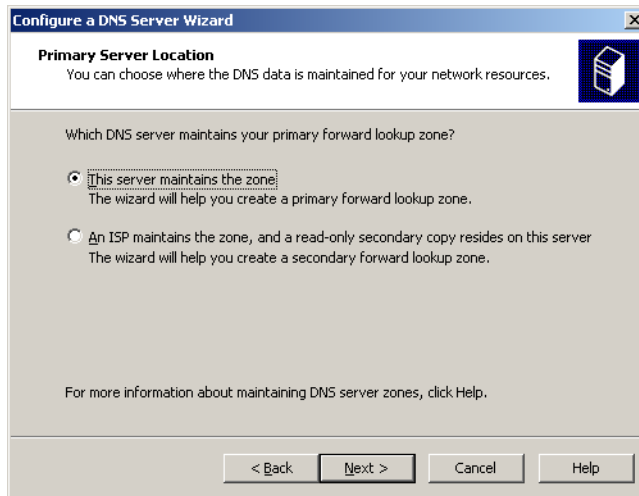

Figure D-50 Primary server location
9. Select the radio button **This server maintains the zone** as shown in figure D-50. Click the **Next** button to continue.